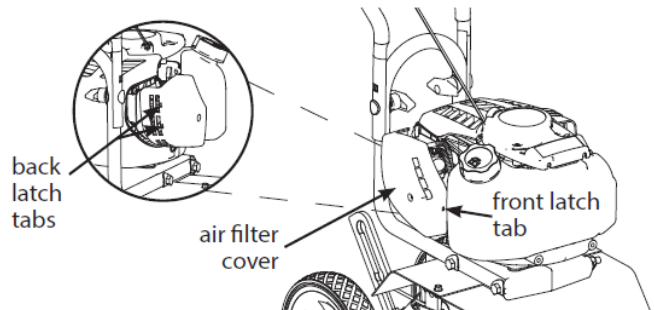

Figure 12
2. To remove air filter cover, unscrew the cover bolt with a screw driver and gently pop out the front latch tab (**Figure 12**). The cover then can be slid off the back latch tabs and away from the engine.